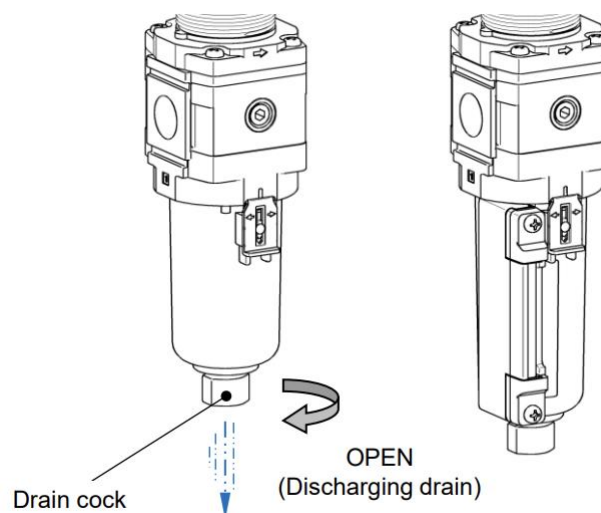

Figure 3.5.2-1: Rotation Type Drain Cock
3. To discharge the auto drain manually, turn the drain cock by hand as shown in Figure 3.5.2-1.